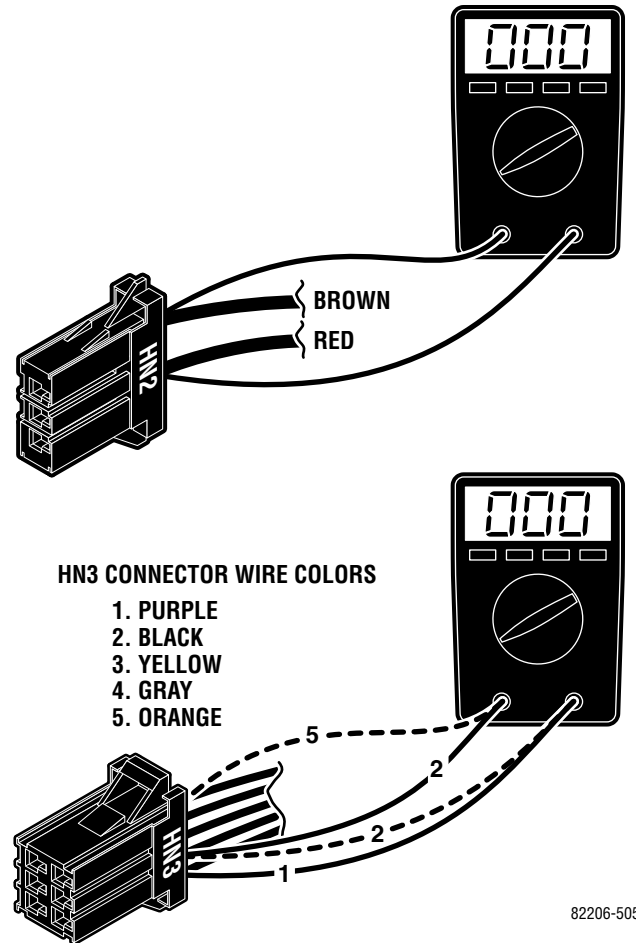

Figure 5-5. Connector HN3
1. Make sure all connectors are connected, connect the power cord and turn AC120V operation ON. Test connectors HN2 and HN3 using a voltmeter. See figure 5-5.